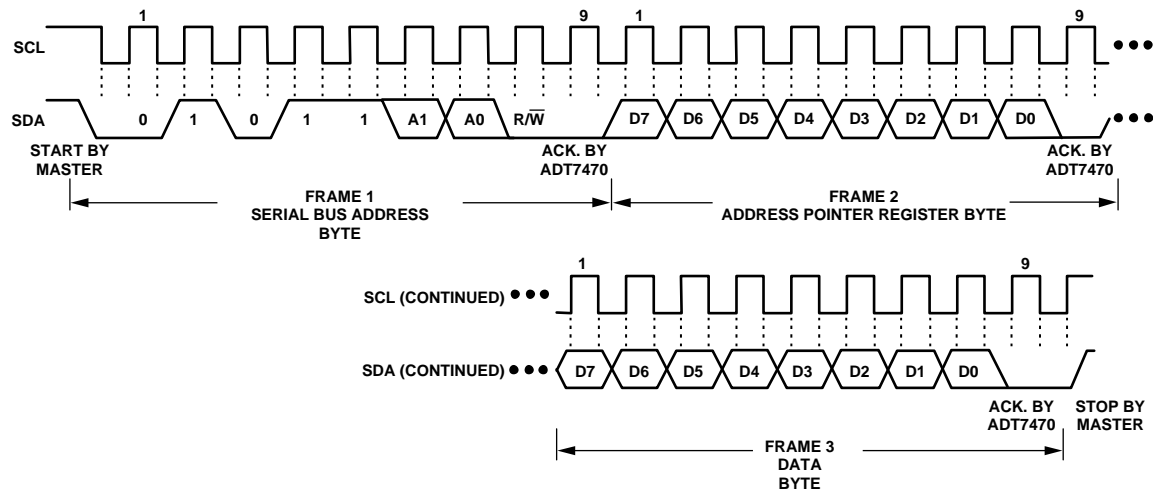
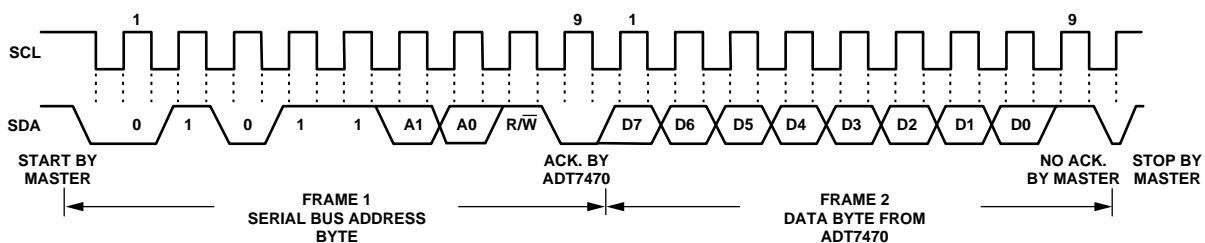

Figure 7. Writing a Register Address to the Address Pointer Register, Then Writing Data to the Selected Register
Figure 9. Reading Data from a Previously Selected Register
This is illustrated in Figure 7. The device address is sent over the bus followed by R/W set to 0. This is followed by two data bytes.
A read operation is then performed consisting of the serial bus address, R/W bit set to 1, followed by the data byte read from the data register. This is shown in Figure 9.
- In Figure 7 to Figure 9, the serial bus address is shown as the default value 01011(A1)(A0), where A1 and A0 are set by the address select mode function previously defined.